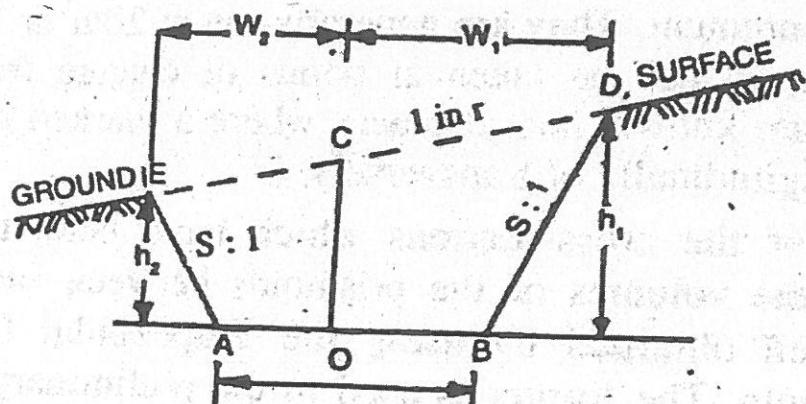

Fig. 12.1.
Notations. Refer fig. 12.1.
2. Two-level Section. (Fig. 12.1). In this case, the ground is sloping transversely, but the slope of the ground does not intersect the formation level.